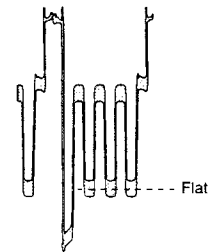

fig. 2.7B
5. Make adjustments using buttons 4 or 6 until the waveform is as shown in figure 2.7B.